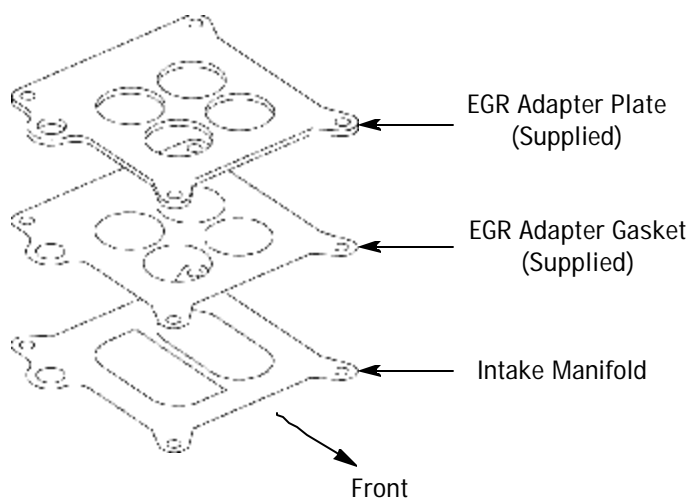

Figure 2 - EGR Adapter Plate Installation (3766 Intake Manifold)
- ☐ 1 - Steel EGR Spacer Adapter Plate (See Figure 2)
- ☐ 1 - EGR Adapter Plate Gasket (See Figure 2)